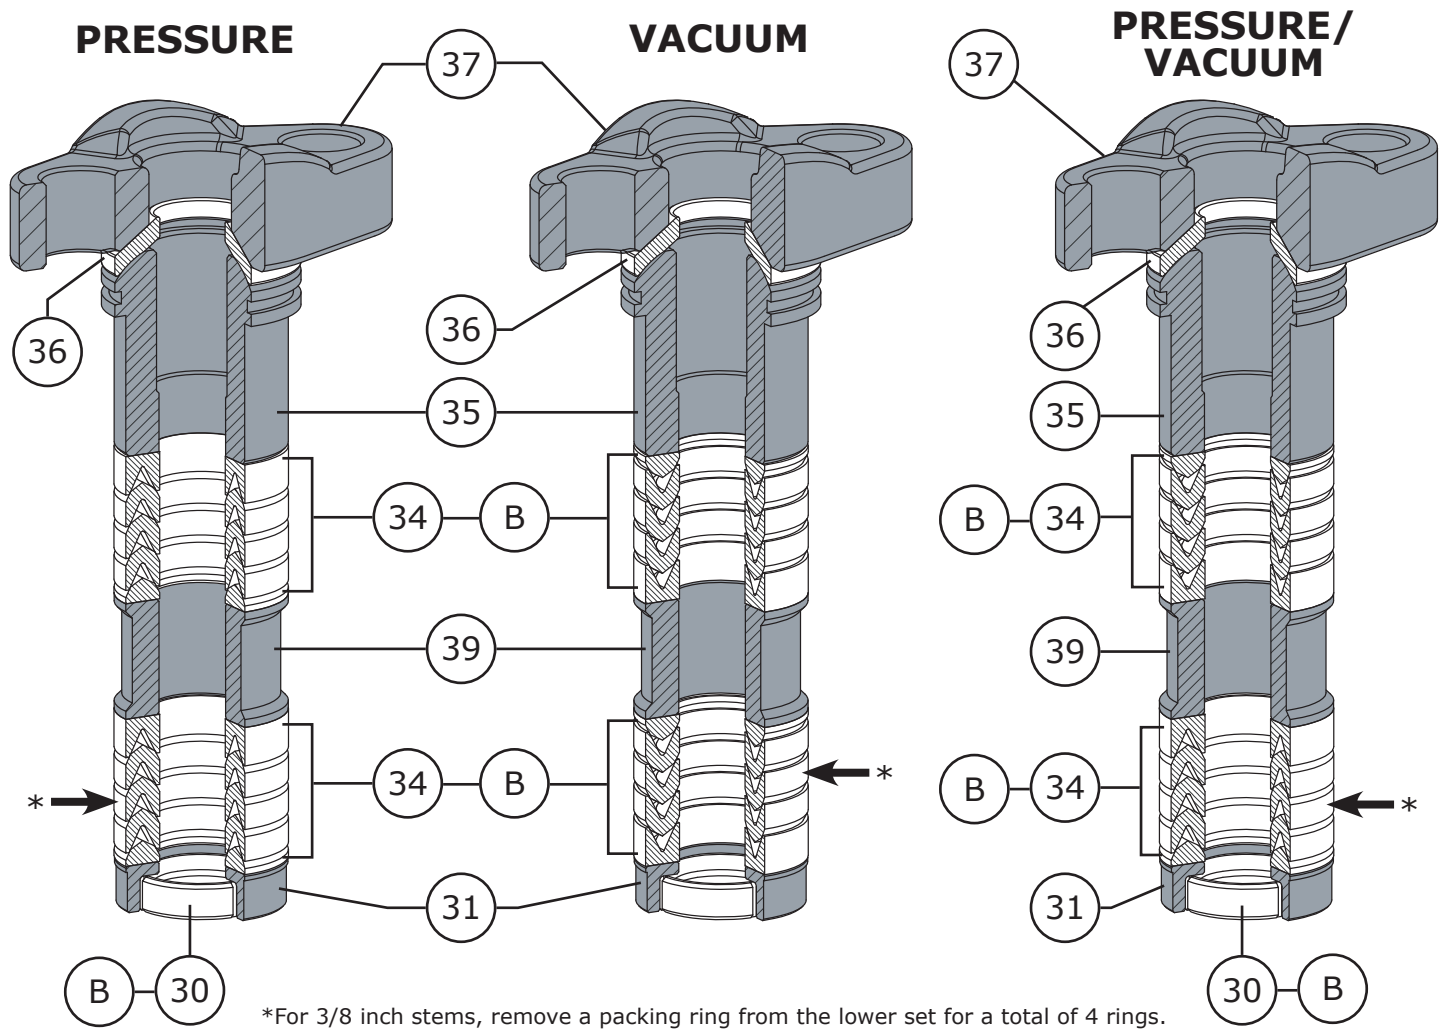

Figure 29 Model 360 Control Valve PTFE Packing Diagrams
- 2 Apply Molykote® 111 (Key B) to the first set of packing rings (Key 34). Install the packing rings one ring at a time (as shown in Figure 26) in the proper order and orientation as shown in Figure 29. **NOTE:** For 3/8" (9.5 mm) valve stems, remove a packing ring from the middle of the packing set. **WARNING:** For oxygen service do not apply Molykote® 111, Molykote® 111 in oxygen service applications can cause an explosion.
- 4 Apply Molykote® 111 (Key B) to the second set of packing rings (Key 34). Install the packing rings one ring at a time (as shown in Figure 26) in the proper order and orientation as shown in Figure 29. **WARNING:** For oxygen service do not apply Molykote® 111, Molykote® 111 in oxygen service applications can cause an explosion.